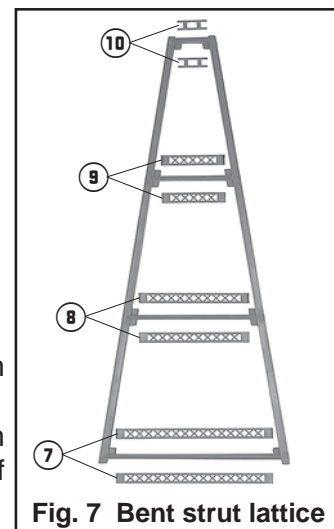

Fig. 7 Bent strut lattice
6. Cement the upper and lower **bent strut lattice**, parts (7), (8), and (9) and **bent strut brace**, part (10) to the bent assembly. Figure 7 shows their general position.